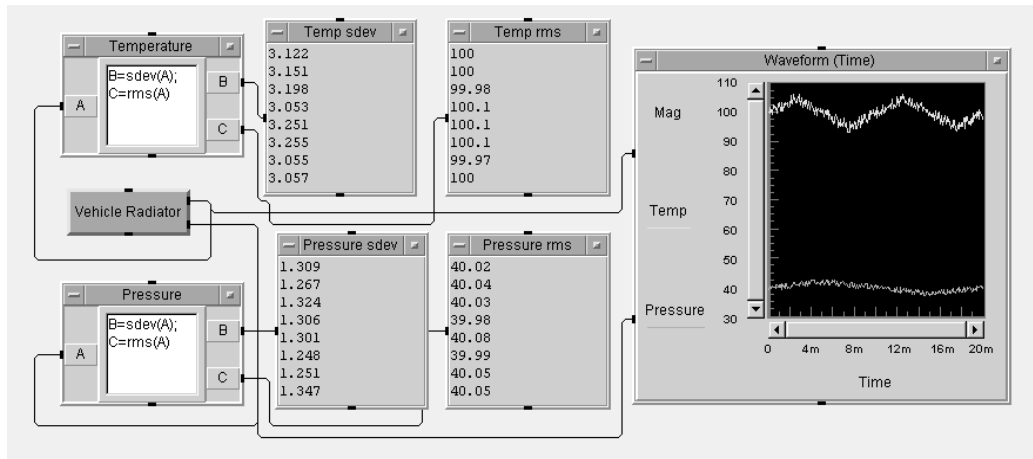

Figure 6.12. Log of vehicle radiator statistical data
20. Save this modified program; leave its name: LAB6-4. See Figure 6.12.
◇ 21. Run this program several times as shown in Figure 6.12.